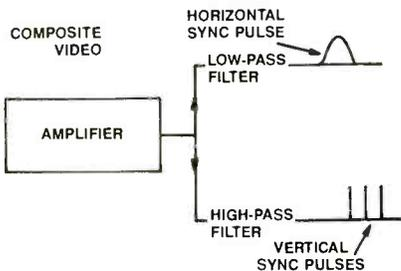

**Figure 5.** The R-C circuit used for an integrator also works as a low-pass filter. The high frequencies are shunted to common through the capacitor.
Because of the nature of the microprocessor and the firmware loaded on the system ROMs, automatic error messages will display on the monitor and help the technician determine the nature of the problem. Many times the error messages describe the action needed to accomplish the repair. Messages such as "Error—ROM checksum failure," "Error—RAM failure," "Error—Bad disk controller" and "Error—sector not found" will often appear. Figure 5 shows some possible messages and service procedures.
- *The low-pass filter.* The R-C circuit used for an integrator also works as a low-pass filter. Figure 5 shows this idea. The high frequencies are shunted to common through the capacitor. Because the differentiator is a high-pass filter and the integrator is a low-pass filter, those concepts are sometimes used to describe the action of the sync separator in an analog TV system. This model of circuit behavior is illustrated in Figure 6.